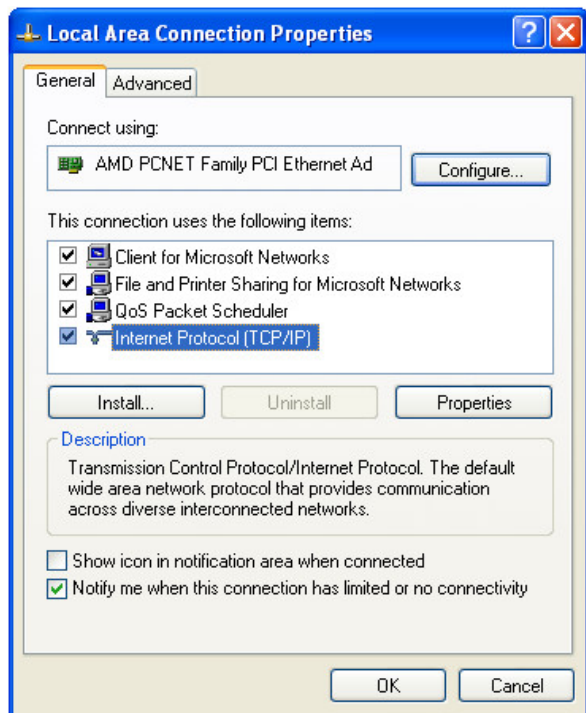

Figure B.1 – Connection properties window in Windows OS
- 2) Click the icon of the connection with the right button, and select "**Properties**" in the drop-down menu. The Properties window opens (see Fig. B.1).